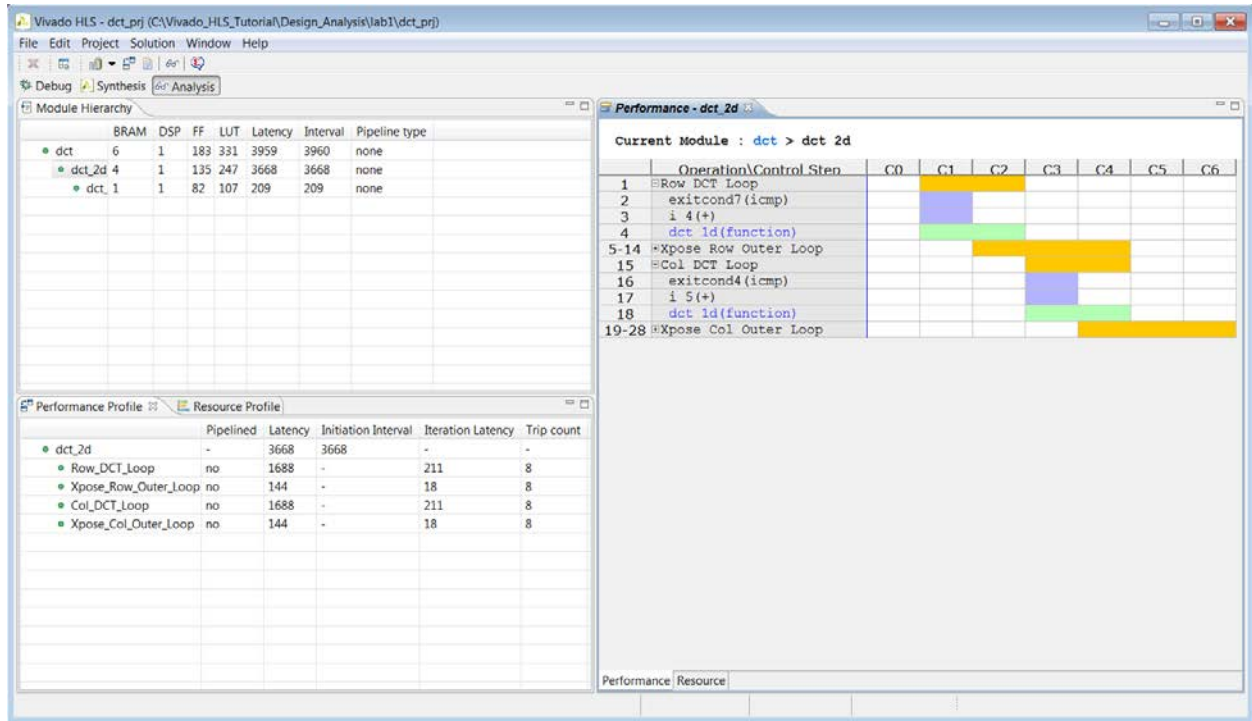

Figure 116: DCT_2D Performance View
6. In the Module Hierarchy, click the function dct_2d to navigate into the view for this function (Figure 116).
Again, you can see a number of loops (shown in yellow in Figure 116). Loops ensure the design will have small area but the design will take multiple iterative states to complete: each iteration of the loop will complete before the next iteration starts.
In the Performance Profile you can see that the latency of all the loops has been substantially reduced (Row_DCT_Loop and Col_DCT_loop have been approximately halved from the earlier report in Figure 116). However, the majority of the latency is still due to these two loops, each of which calls the `dct_1b` block.